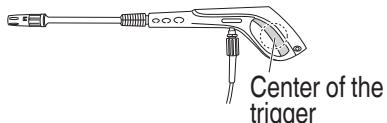

Fig. 20
- Place your finger in the center of the trigger during operations (Fig. 20)